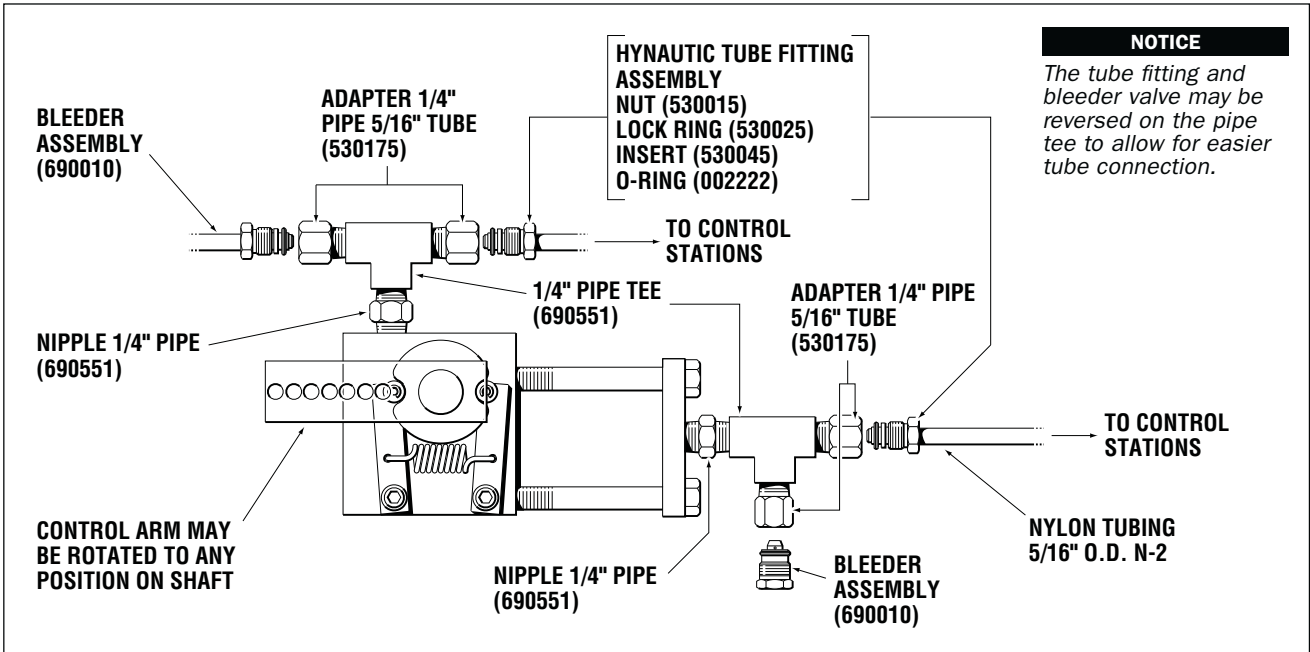

Figure 9. SS-04 Shifter Slave - Bleeder Valve and Tubing Adapters Installation.
- 12** Locate and secure in place two tees, two bleeder valves, and two tubing adapters, per Figure 9.